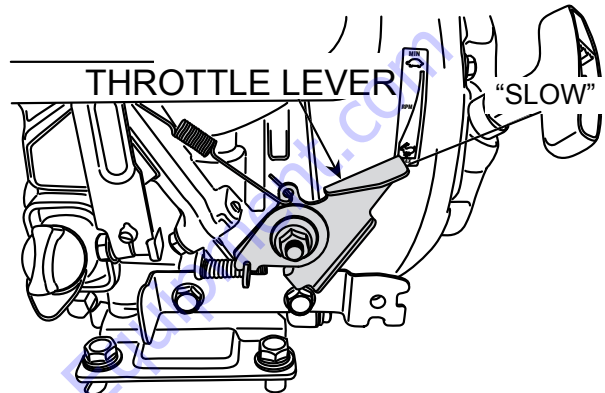

Figure 13. Throttle Lever (Slow)
4. Place the throttle lever (Figure 13) in the **SLOW** position (idle).
1. Place the throttle lever (Figure 13) in slow position, and listen for the engine speed to decrease.